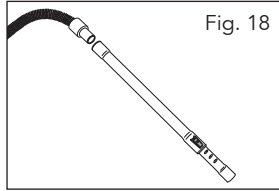

Fig. 18
The flexible suction hose (37) can be extended by attaching the telescopic suction tube (19) (Fig. 18).